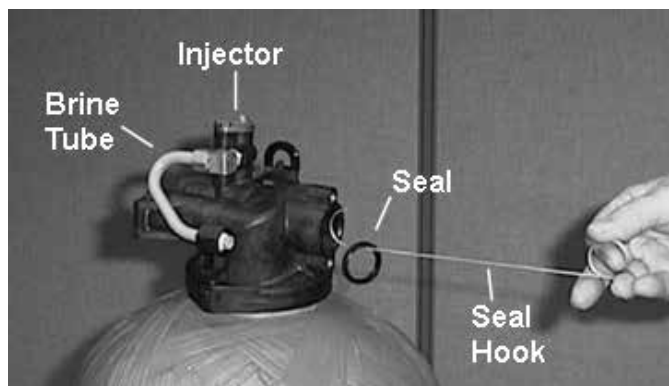

Figure 10
6. Remove the seal first using the wire hook with the finger loop (see "Figure 10").